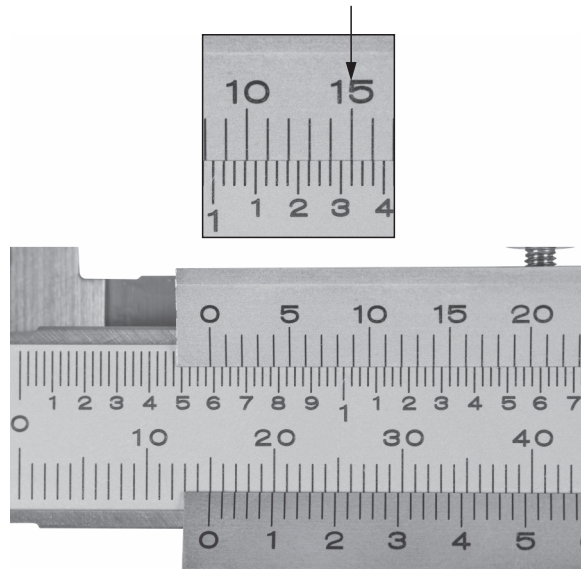

Figure 31: Reading a vernier caliper.
3. Which of the following measurements corresponds to the reading in inches shown in Figure 31? The small arrow shows a detail of the vernier scale.